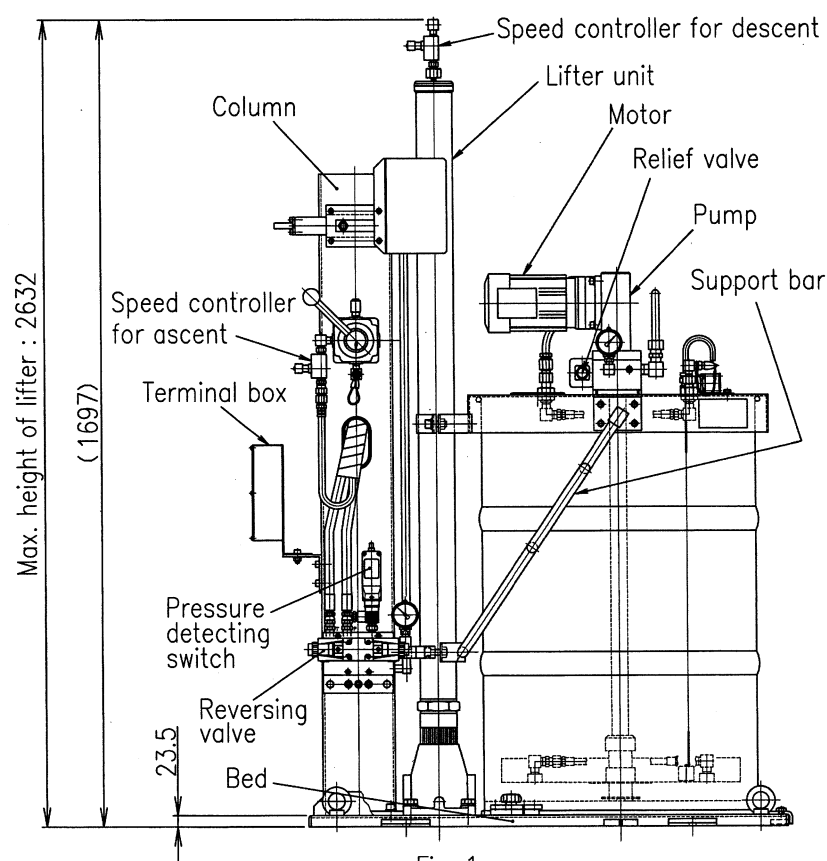

Fig. 1
- Fig. 1 shows standard dual line unit.